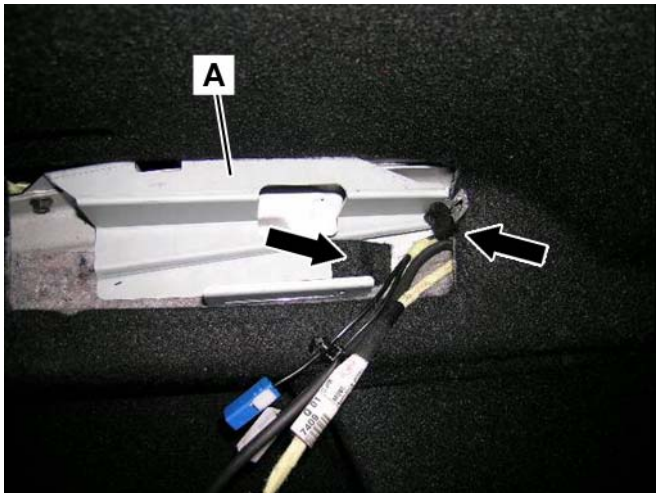

Figure 12
7. Affix two felt pieces (35x25 mm) on the bracket over the sharp edges as shown (Arrows, Figure 12)